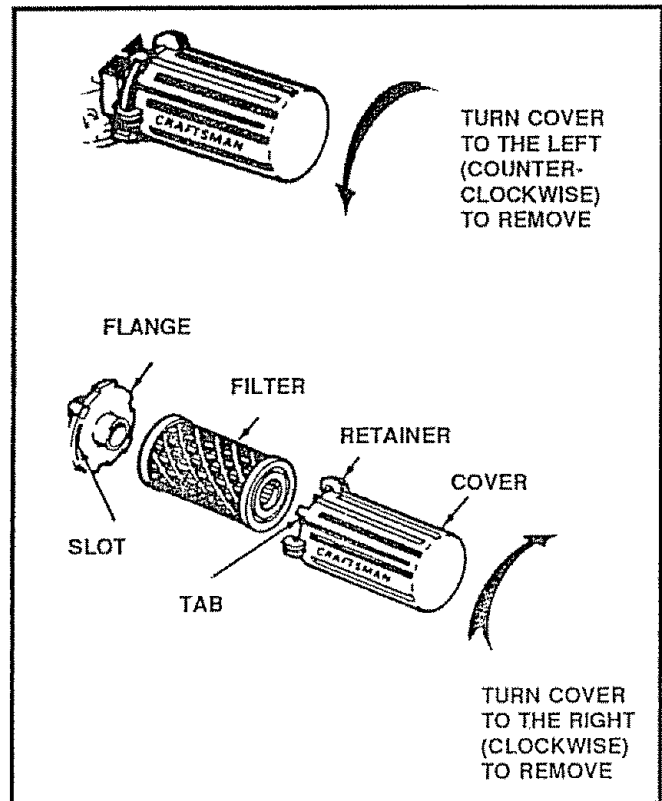

FIG. 9
- Disconnect the spark plug wire from the spark plug. Turn the cover (See Fig. 9) to the left (counterclockwise) and remove the cover and the air filter from the flange.
- Push the cover firmly against the flange and turn it to the right (clockwise) as far as it will go (See Fig. 9). Be sure the retainers are locked around the flange.